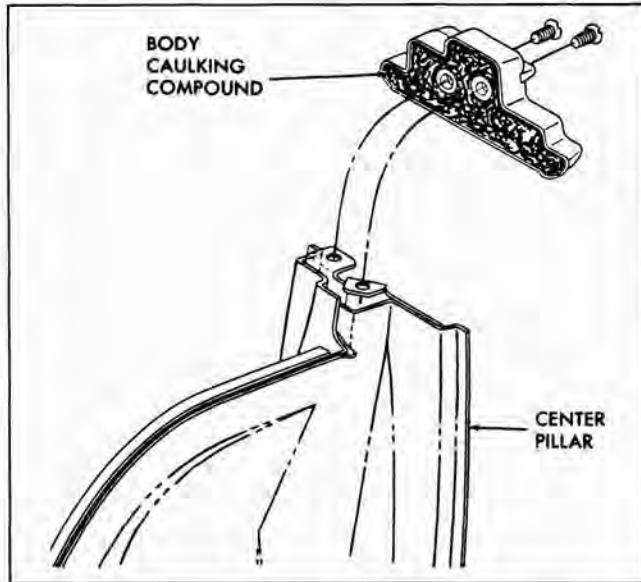

Fig. 3-46 Center Pillar Finishing Cap
1. Remove two (2) screws from top of cap and remove cap from center pillar.
2. To install, apply a bead of body caulking compound to underside of cap; then, position cap on center pillar and install attaching screws (Fig. 3-46).